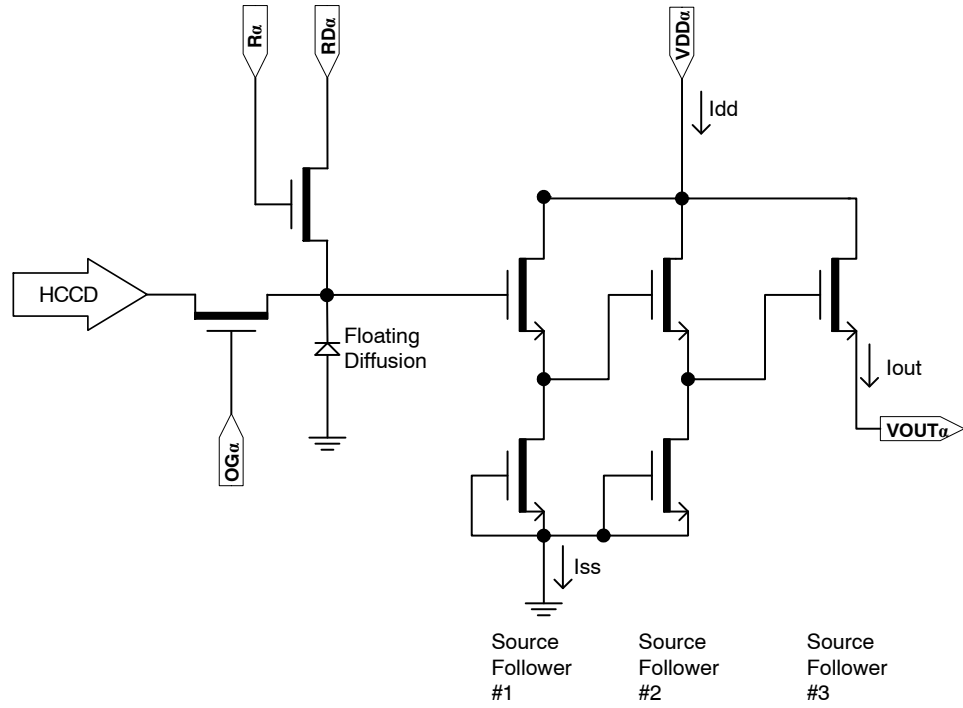

Figure 17. Output Amplifier
2. The maximum DC current is for one output. Idd = Iout + Iss. See Figure 17.